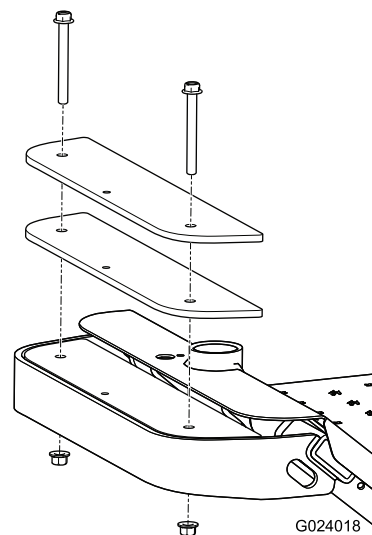

Figure 6
1. Remove the 2 bolts and 2 nuts securing the existing weights on the front of the machine (Figure 6).